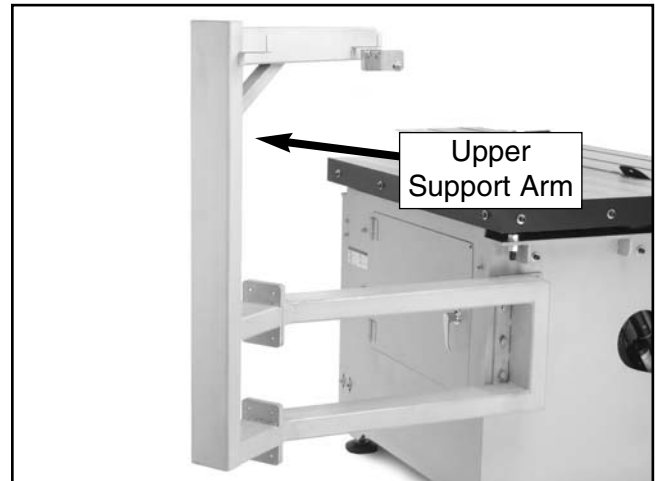

Figure 32. Vertical support installed.
4. Position the upper support arm over the holes in the lower support arm and secure it with the bolts removed in **step 3** (**Figure 32**).